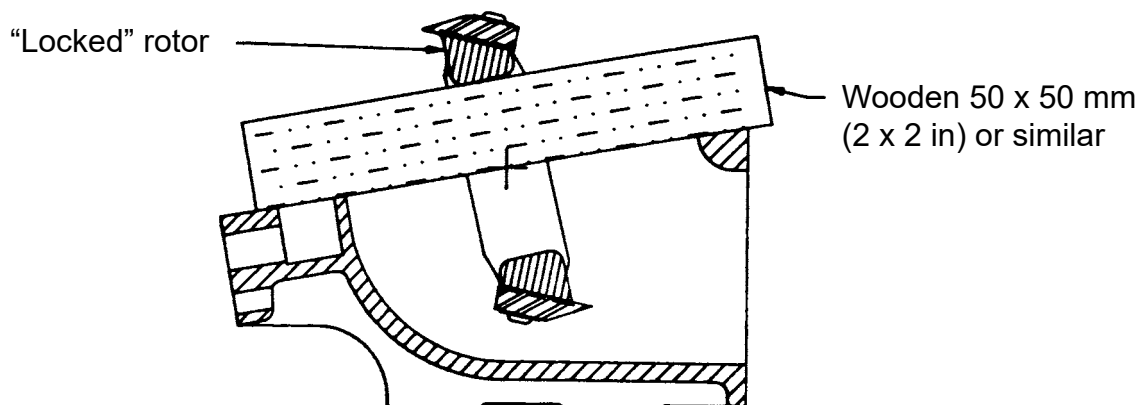

FIG.2
Temporarily lock rotor (item 3) by placing a wooden 50 x 50 mm (2 x 2 in) or similar through one of the rotor openings, spanning the face of cutter/granulator base (FIG.2).
Clean rust and dirt from serrations of knives and rotor. Fasten knives to rotor in equivalent serrations (so that knife edges rotate on same arc - nominally 171.5 mm (6 3/4")) using eight button head cap screws and eight disc springs (items 12 and 16). Lock rotor using wooden 50 x 50 mm (2 x 2 in) (FIG. 2) and tighten screws with 25 Nm/16.5 ft-lb (40 Nm/29 ft-lb for MC 5000).